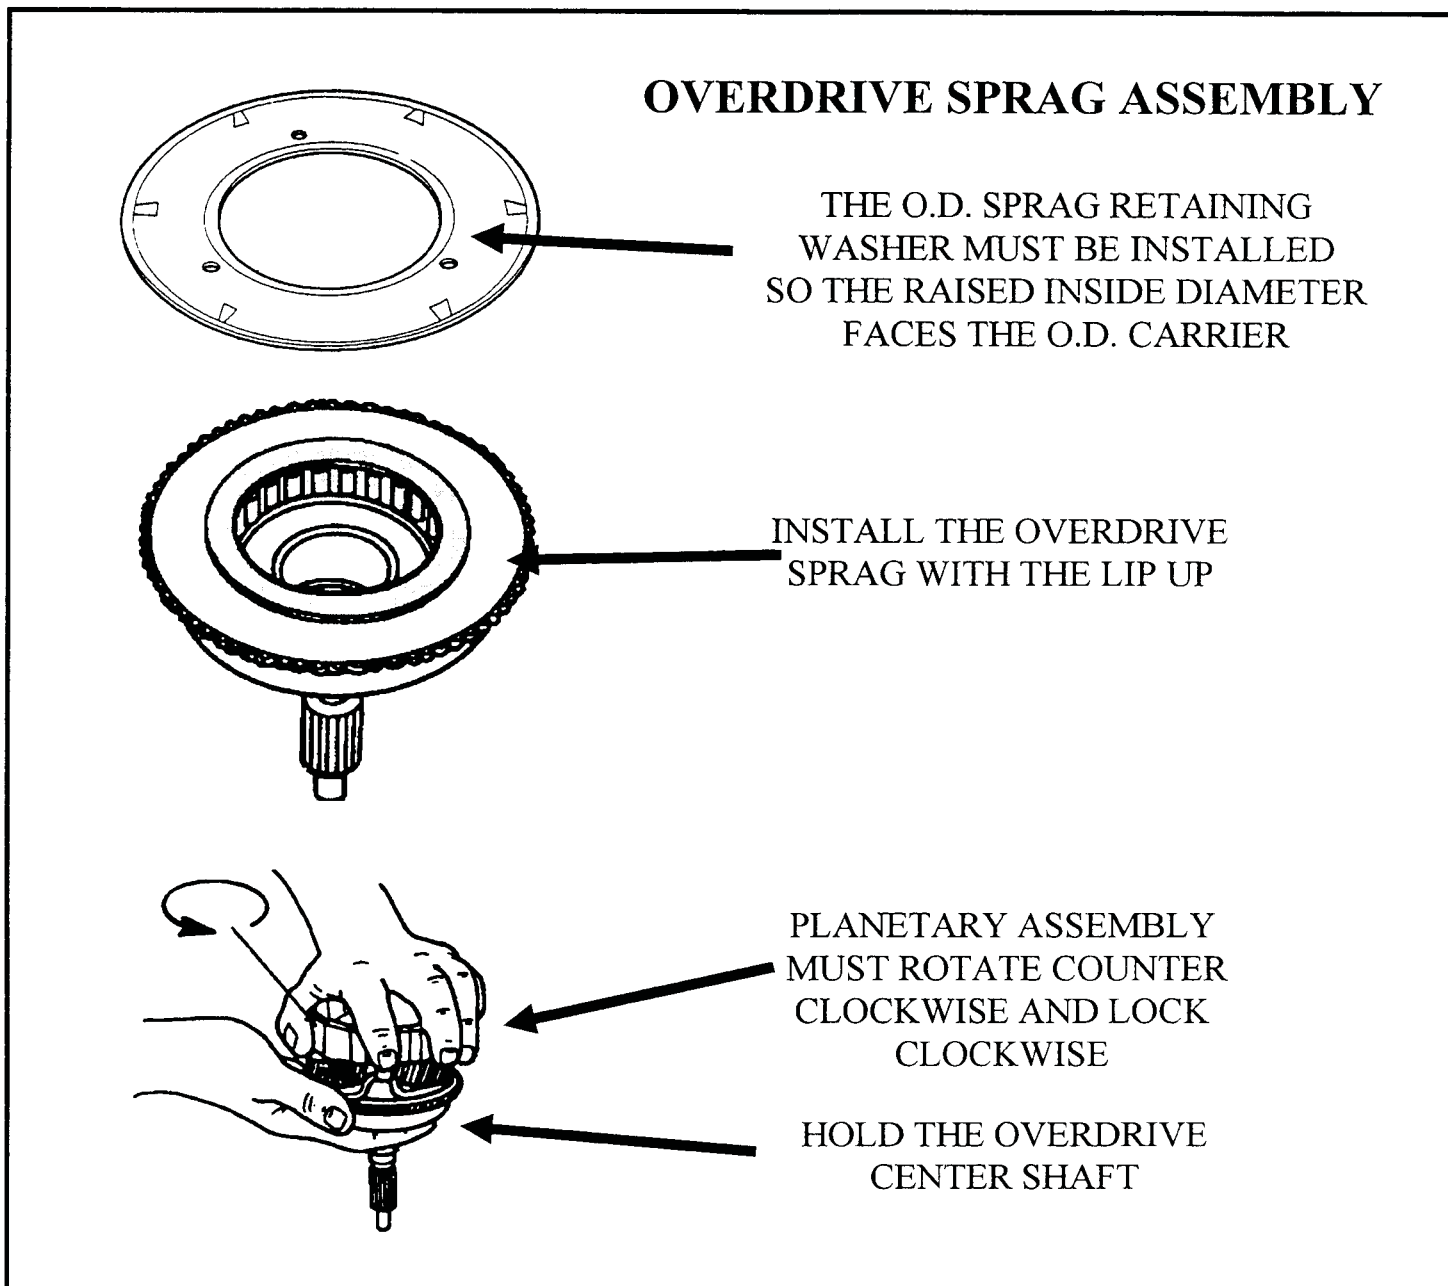

Figure 21
**CAUSE:** The cause may be the overdrive sprag in backwards or not holding (See Figure 21).